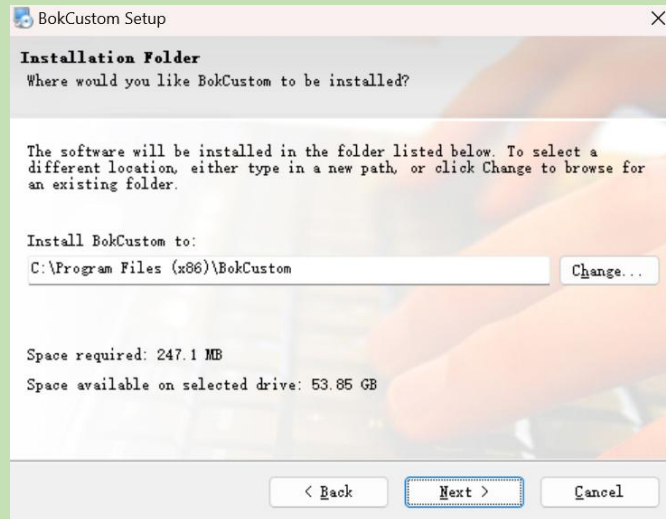

Figure 1-6
4. After changing the installation directory, click “Next” (as shown in Figure 1-6)